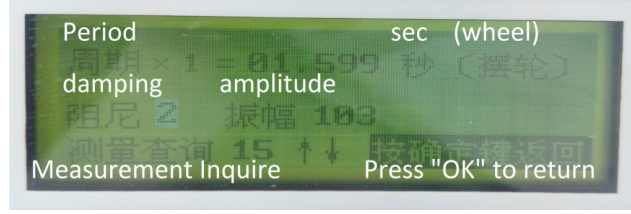

Figure 6: Snapshot for the measurement of the “Damped Oscillation” mode.
6. Select the “Damped Oscillation mode” and then select the “damping 2” option. Then the screen looks like Figure 6.